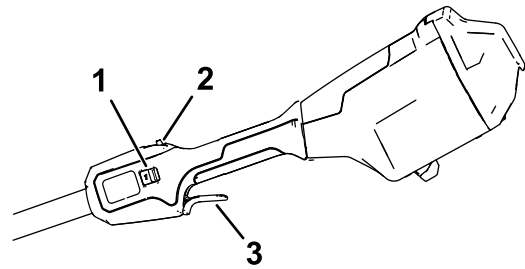

Figure 8
5. To start the machine, push the trigger lock, then squeeze the run trigger (Figure 8).